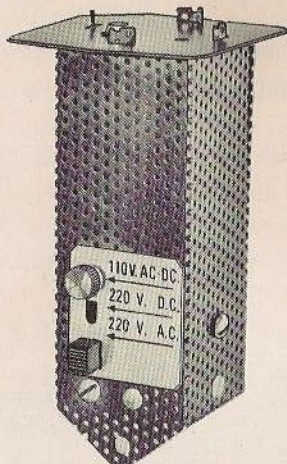

Figure 6—Ballast Adapter Switch Positions.
2. Move the switch on the ballast adaptor to either 110 volts AC-DC, 220 volts DC or 220 volts AC position to conform to the type current on which the set is to be operated. (See Figure 6.)